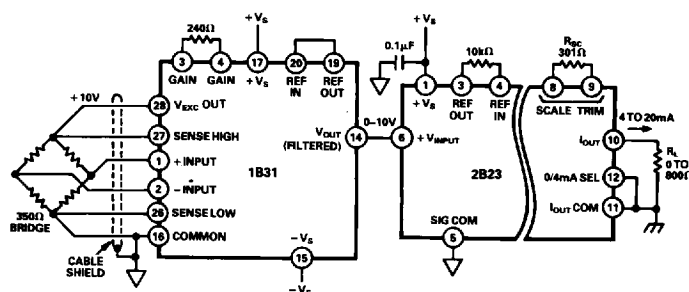

Figure 20. Isolated 4-20mA Transmitter
**Isolated Current Loop Interface:** The output of the 1B31 can be interfaced to a process loop as shown in Figure 20. The 2B23 module produces an isolated  $4\text{-to-}20\text{mA}$  output current which is proportional to the input voltage and independent of the output load resistance. Common-mode input/output isolation is  $\pm 1500\text{V}$  pk continuous.